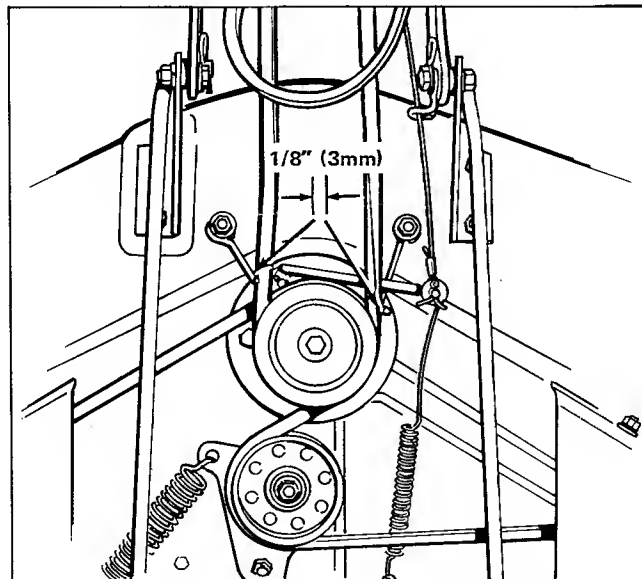

Figure 30. Arbor Belt Stop Position
6. Check the positioning of the two front belt stops. Both belt stops should be  $\frac{1}{8}$  inch (3 mm) from the drive belt (figure 30).